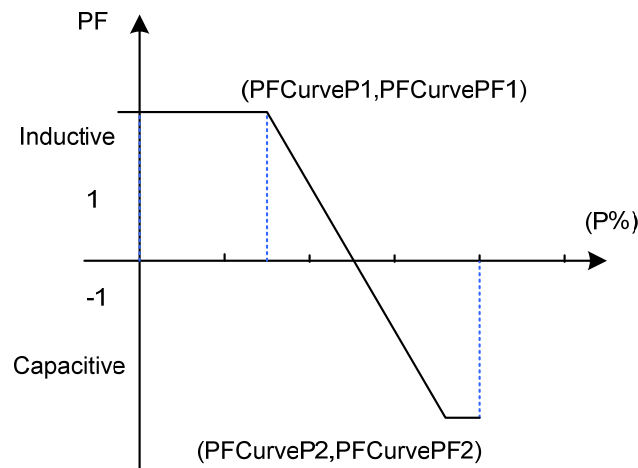

Figure 6-13 PF(P) Curve Mode
- PF(P) Curve: PF curve mode. Note: The power factor changes according to the power change, as shown in Figure 6-13.